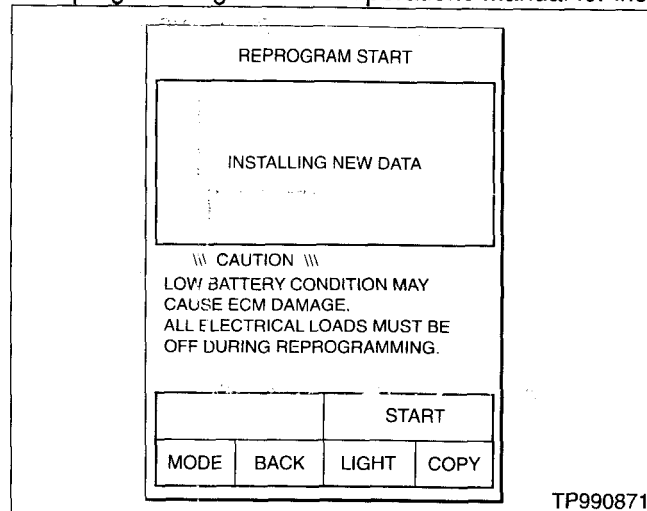

Figure 23
35. The "REPROGRAM START" window should appear (see Figure 23).